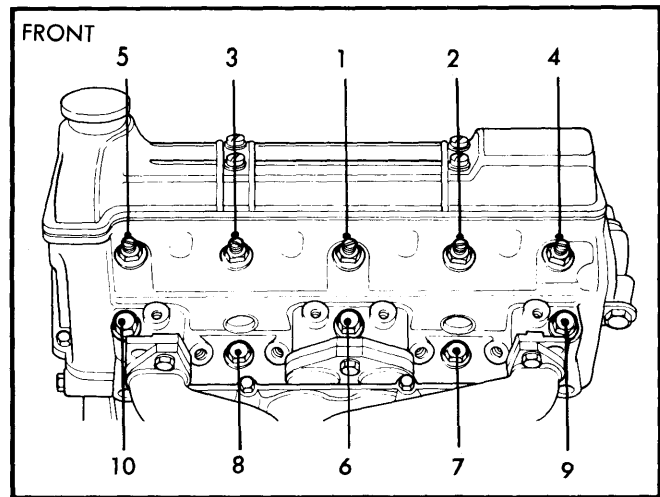

Fig. 1 Cylinder Head Tightening Sequence
2) Unlock and remove top sprocket retaining bolt. Disconnect air hose from air injection check valve and disconnect water pipe from thermostat housing. Disconnect exhaust pipe from manifold. Remove the two cylinder head to timing cover nuts and bolts and loosen cylinder head nuts and bolts in reverse of tightening sequence (See Fig. 1). Remove cylinder head complete with exhaust manifold.
Installation – To install, reverse removal procedure and tighten bolts to specification in sequence shown in Fig. 1.